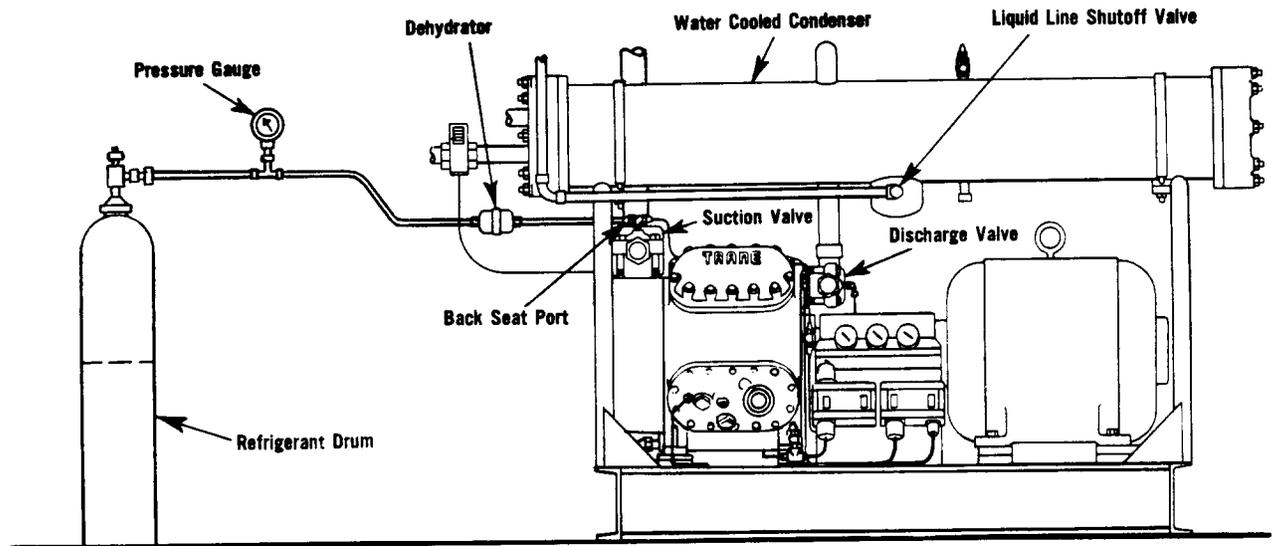
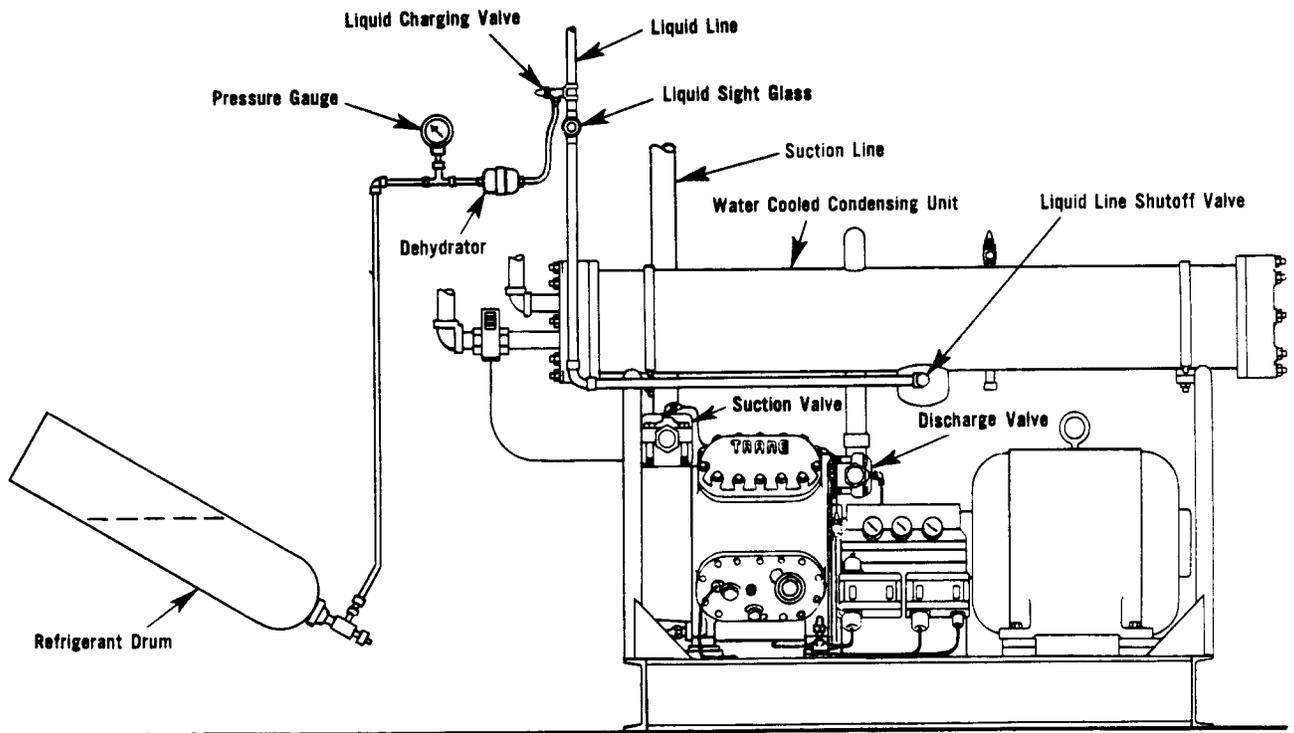

Fig. 13 — Low Side Charging
Fig. 14 — High Side Charging
9.07 Adding Refrigerant: In general, there are two methods of adding refrigerant to a system: (1) Through the suction line, Fig. 13, or (2) into the liquid line, Fig. 14. Refrigerant that has been transferred from the original factory drum to a service cylinder may contain dirt, scale, and moisture, therefore, it is best to vaporize the refrigerant before admitting it into the system. If a large amount of refrigerant is to be charged and the refrigerant is contained in its original cylinder the refrigerant may be added through the liquid line charging valve.
(1) Back-seat the suction valve and connect the refrigerant cylinder to the gauge port. A gauge should be installed as shown in Fig. 13.
(2) Purge the charging line, screw in the stem of the suction valve a couple of turns and start the compressor. Avoid any sudden rise in suction pressure (not over two pounds) by controlling the flow of refrigerant with the cylinder valve.
(3) Check the refrigerant charge frequently and when a sufficient amount is in the system close the cylinder valve, back-seat the suction valve and disconnect the cylinder.
(1) Liquid refrigerant may be charged into the system through a valve in the liquid line between the receiver and the expansion valve as shown in Fig. 14.